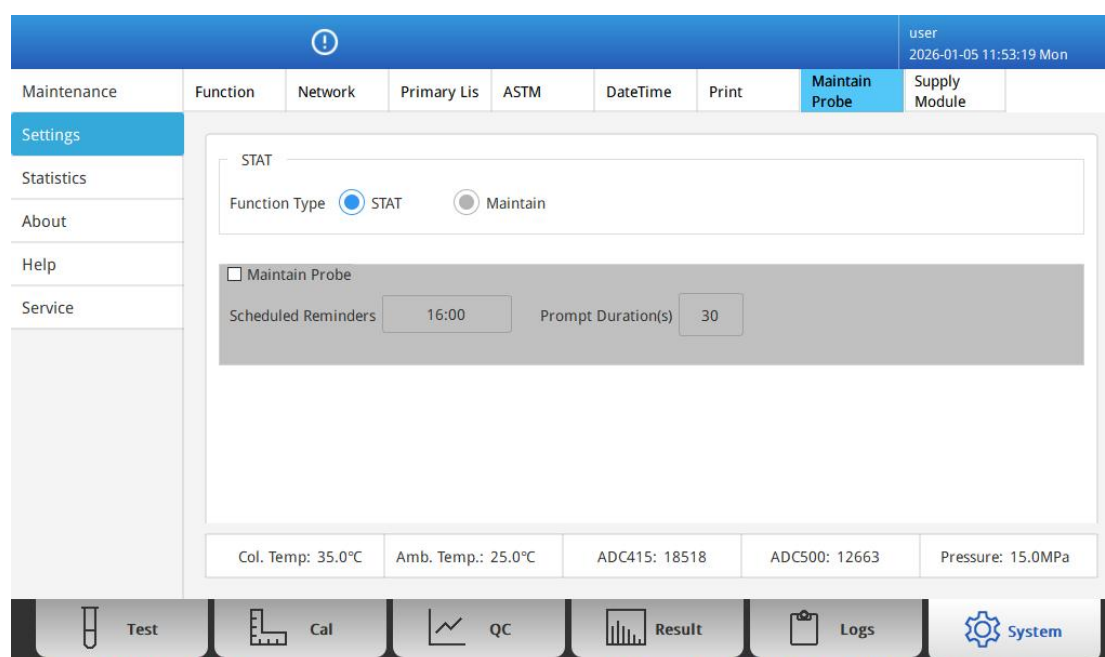

Fig. 5-6 View of Settings Interface
1) Click “**Settings**” -> “**Maintain Probe**” button on the System interface, then click “**STAT**” button. A prompt will display as **Fig 5-6**.